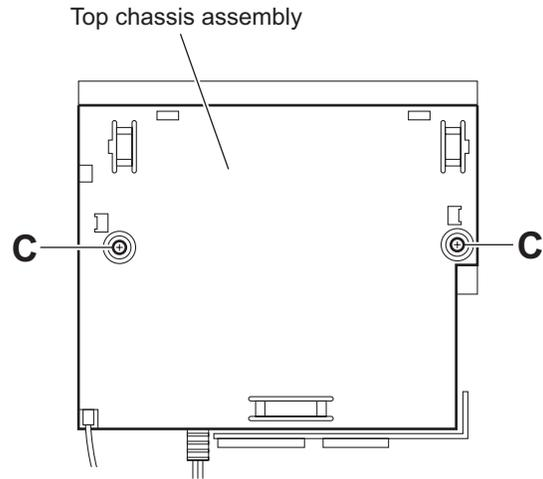

Fig.3
3.1.3 Removing the top chassis assembly (See Figs.3 to 6)
- From the top side of the main body, remove the two screws **C** attaching the top chassis assembly. (See Fig.3.)